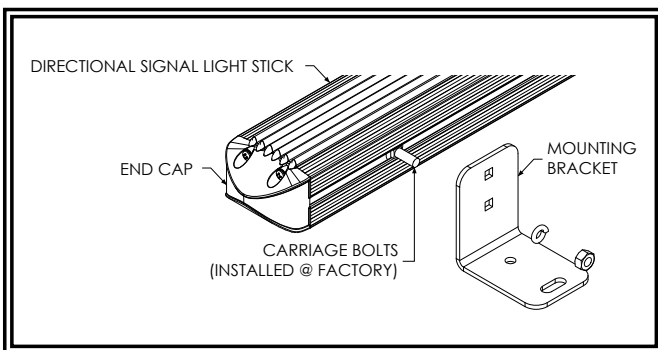

Figure 1
**Horizontal Surface Mounting:** Refer to Figure 1 for the following instructions.